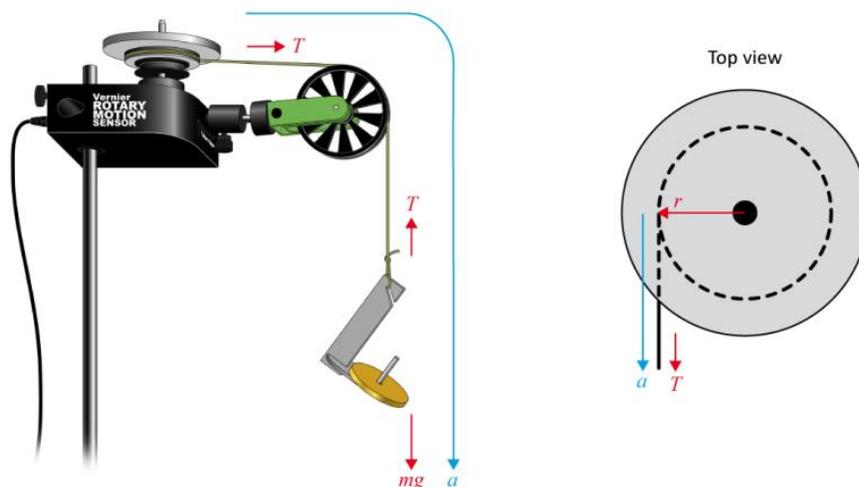

Figure 1 – Force and torque diagram to determine the moment of inertia
The device you will use in this experiment, a rotary motion sensor, can directly measure the angle of a rotating platform as a function of time,  $\theta$  vs.  $t$ . This information can be used to determine the angular speed  $\omega = d\theta/dt$  and the angular acceleration  $\alpha = d\omega/dt$ . The applied torque on the system will be caused by weight hanging from a string that is wrapped around the base of the sensor as illustrated in Figure 1. In this configuration, the torque is given by  $\tau = rT$ , where  $r$  is the radius of the pulley around which the string is wound and  $T$  is the tension in the string. The tension can be linked to the hanging mass using  $mg - T = ma$ , where  $a$  is the acceleration of the hanging mass. Solving for  $T$ , we find that
- Step 2.* Attach a string to the edge of the large pulley on the sensor and attach the other end to the mass hanger for the lightweight masses as in Figure 1. Make sure to hang the string over the green pulley and that the hanger/hook can hang freely without touching the floor. Adjust the angle of the green pulley such that it is perpendicular to the tangent of the large pulley.